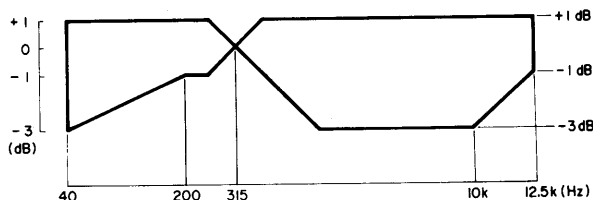

Fig. 6-6-3
- 1) Connect test equipment as shown in Fig. 6-6-3. Connect an AF signal generator to AUX RCV (L & R) jacks. Connect level meters to both TAPE OUT and LINE OUT jacks. (If two meters are not available, use one meter alternately.)
- 1) Connect test equipment as shown in Fig. 6-6-3.